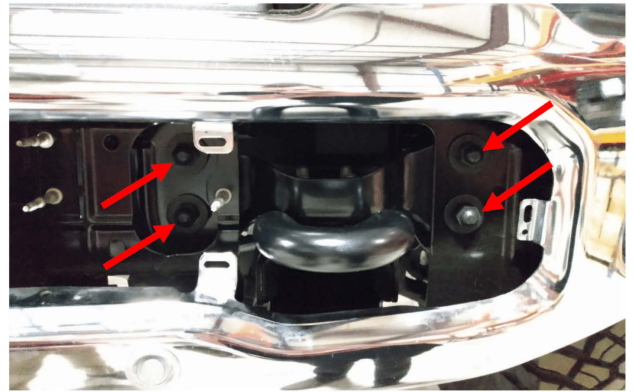

Figure 6.
6. Using an 18mm socket wrench, remove the eight (8) bolts that attach the bumper to the tow hook brackets. Figure 6.